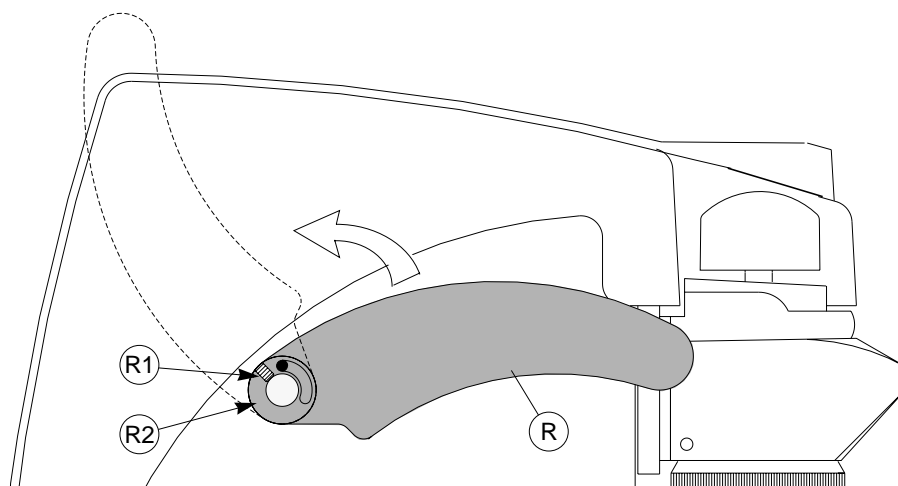

Fig. 15
- 1) loosen the grub screw (R1) (fig. 15).